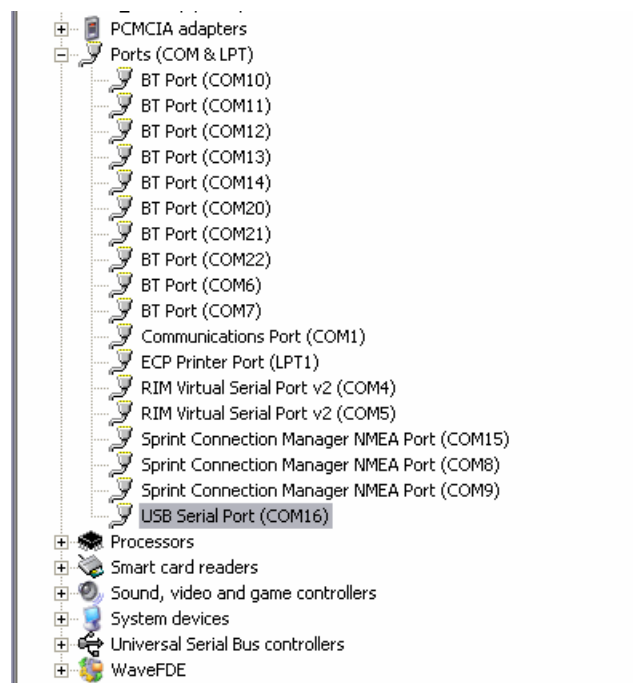
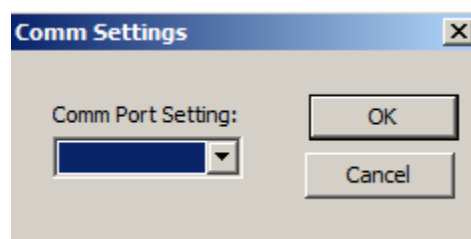

Figure 9: Device Manager Port Listings
Figure 11: Matching COM Port Settings
The Device Manager screen will appear (Figure 9). The COM port number assigned to the USB serial port is indicated under the "Ports (COM & LPT)" heading. The port assignment shown below is COM16. On other computers, the port assignment number may be different.
- Click on the "Comm Settings" drop-down menu, then select the appropriate port number from that menu, per Figure 11.
- NOTE:** The USB serial port number (Figure 9) and the "Comm Settings" number (Figure 11) must be the same number.